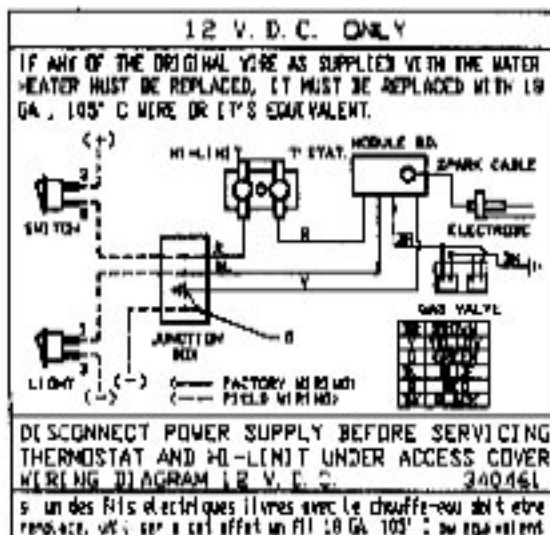

Figure 7
- E. Make the 12 Volt D.C. electrical connections following the wiring diagram illustrated in Figure 7.